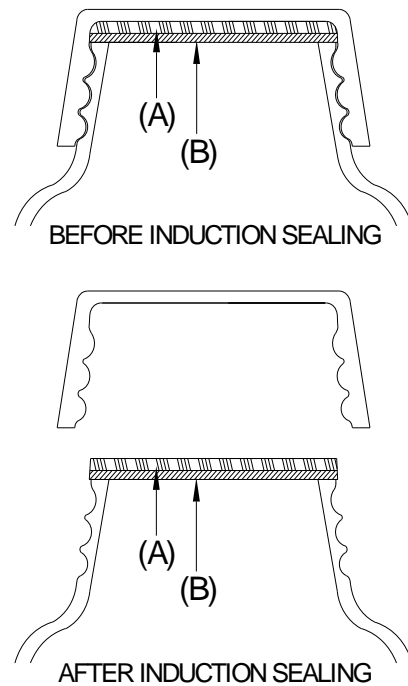

Figure 2
A single piece foil liner (Figure 2) typically consists of a layer of aluminum foil (A) coated with a polymer (B) inside a closure.